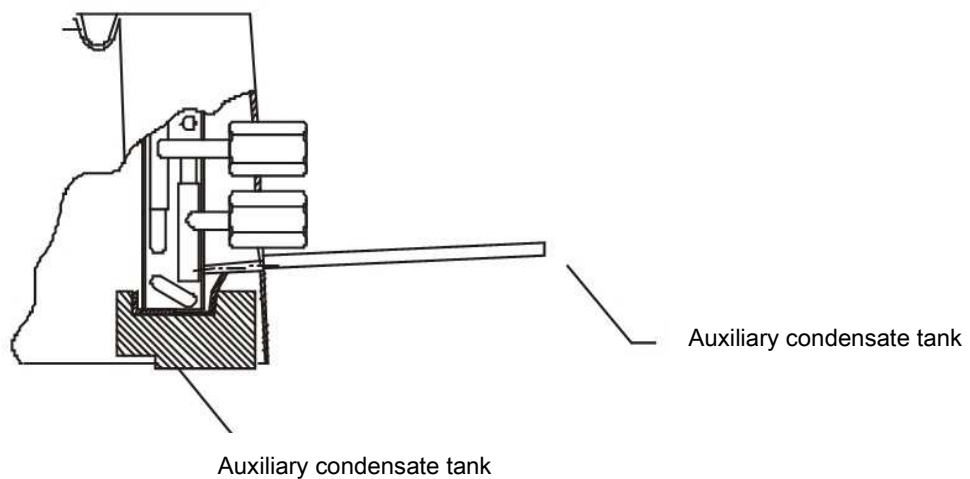

Figure 9
- Tighten the two screws while making sure the external drain pan is installed evenly against the fixing plate. (Figure 9)